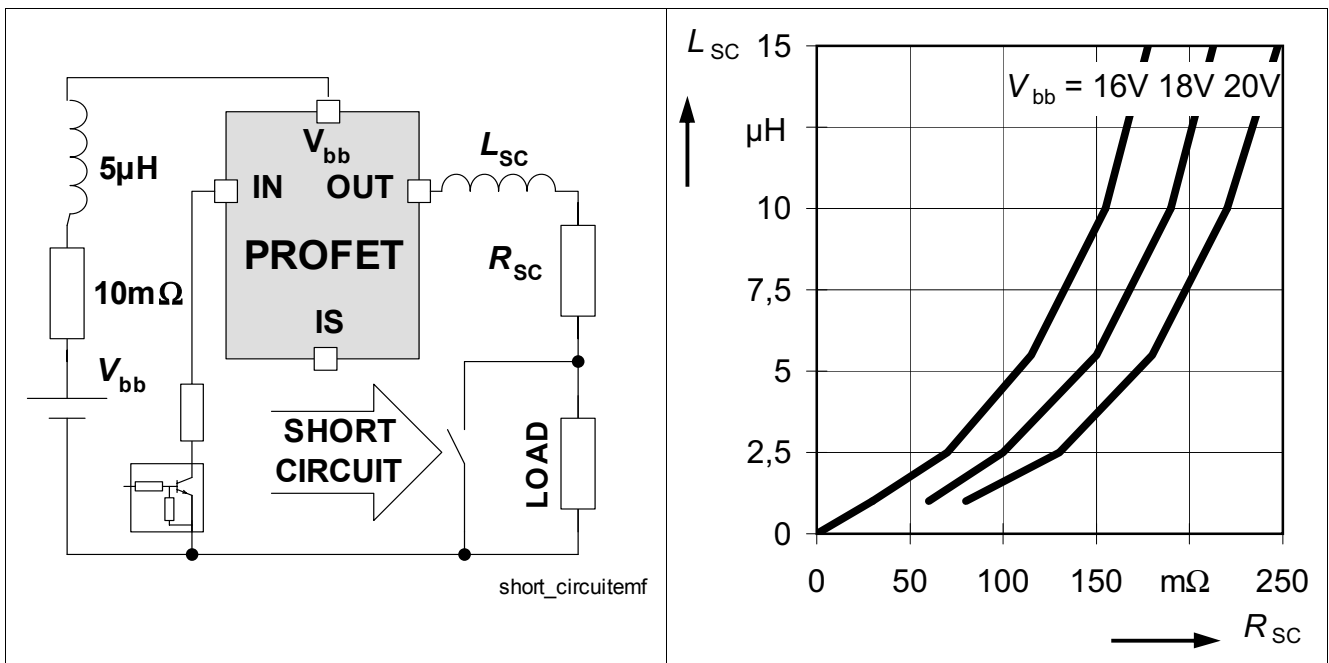

Figure 13 Short circuit
- 2) Short circuit is defined as a combination of remaining resistances and inductances. See Figure 13.
The capability to handle single short circuit events depends on the battery voltage as well as on the primary and secondary short impedance. Figure 13 outlines allowable combinations for a single short circuit event of maximum, secondary inductance for given secondary resistance.